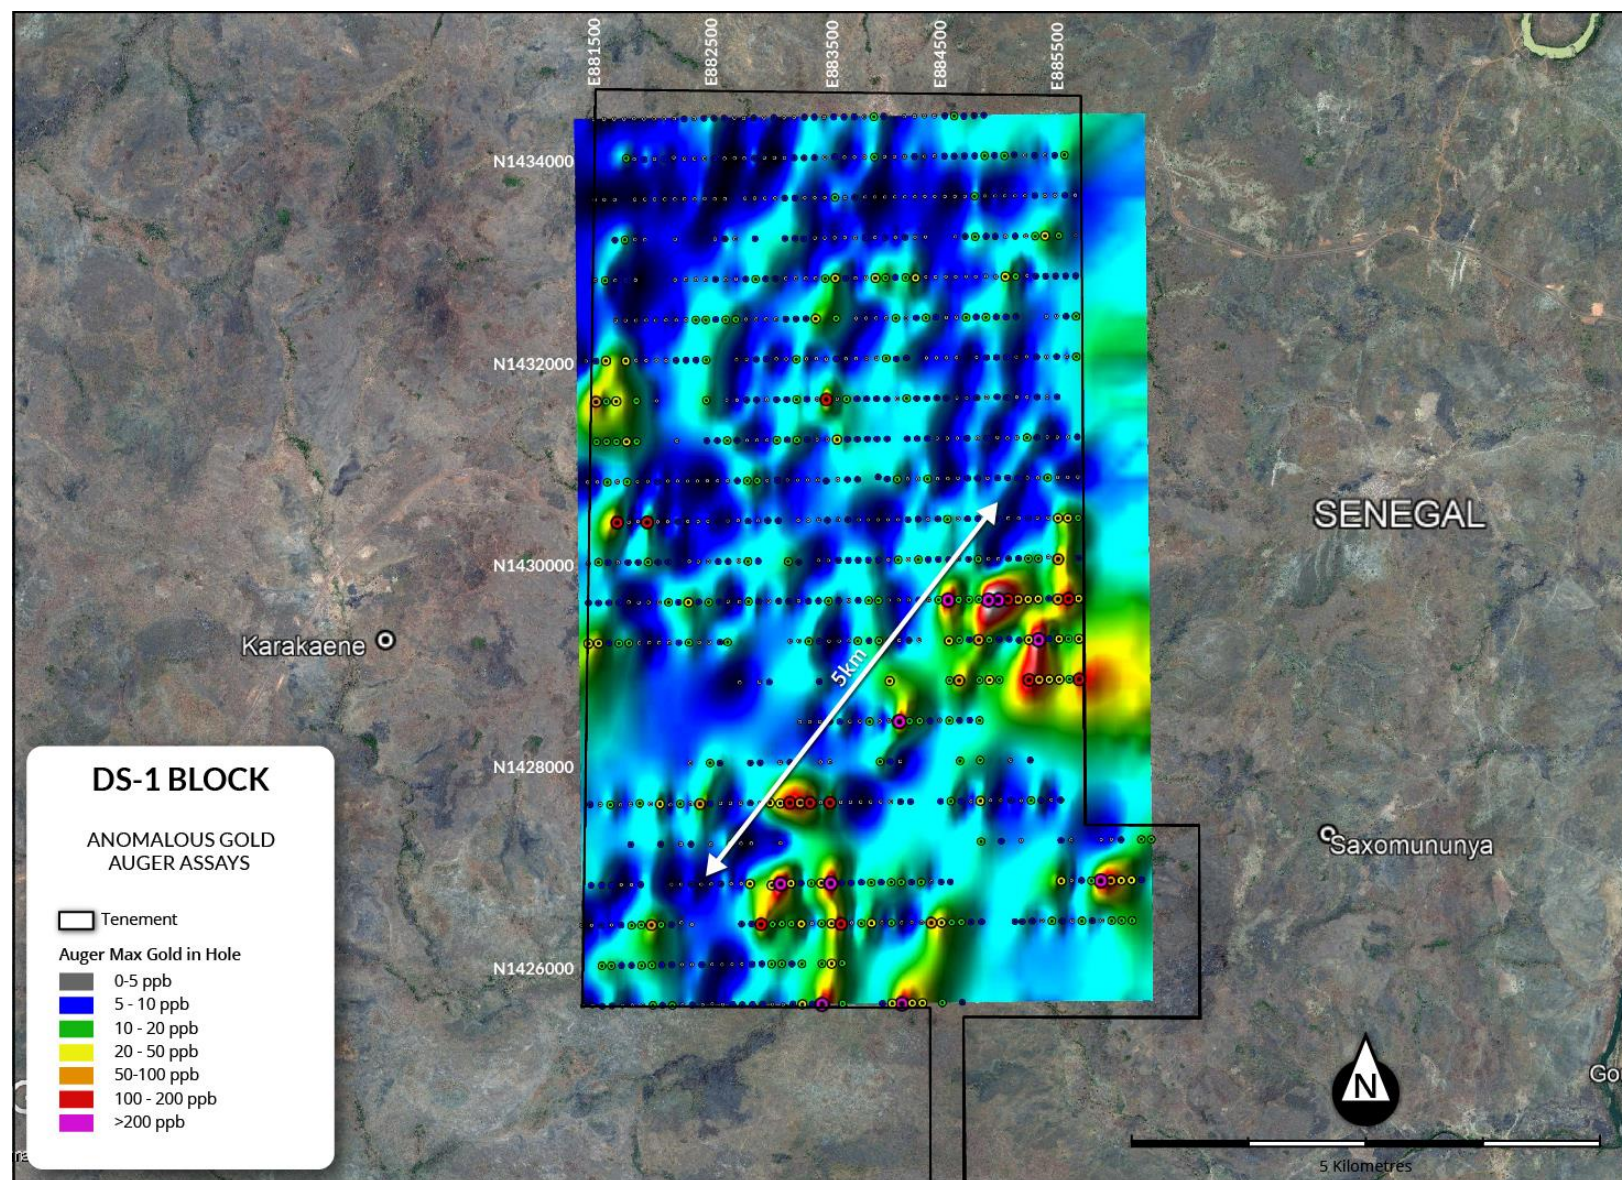

Figure 2: Location of auger drill holes and max gold in hole assay results plotted on google earth at DS-1
The assay results returned for DS-1 have been plotted and the bulk of anomalous gold assays are contained within the southern half of DS-1 in a zone trending roughly NNE to SSW (Figure 2).
- iii. The gold domaining shown in Figure 2 are for the maximum gold assay value returned from that hole